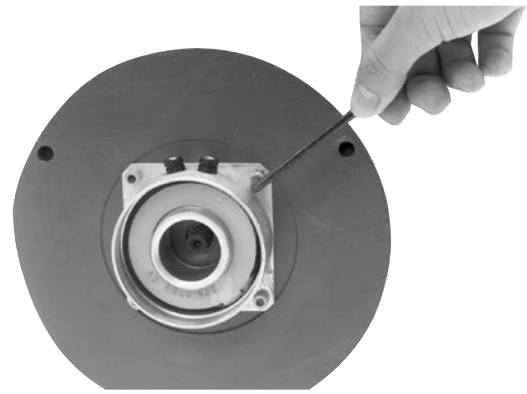

Figure 2
3. The field assembly is then fastened in place with capscrews and lockwashers. (Figure 2)